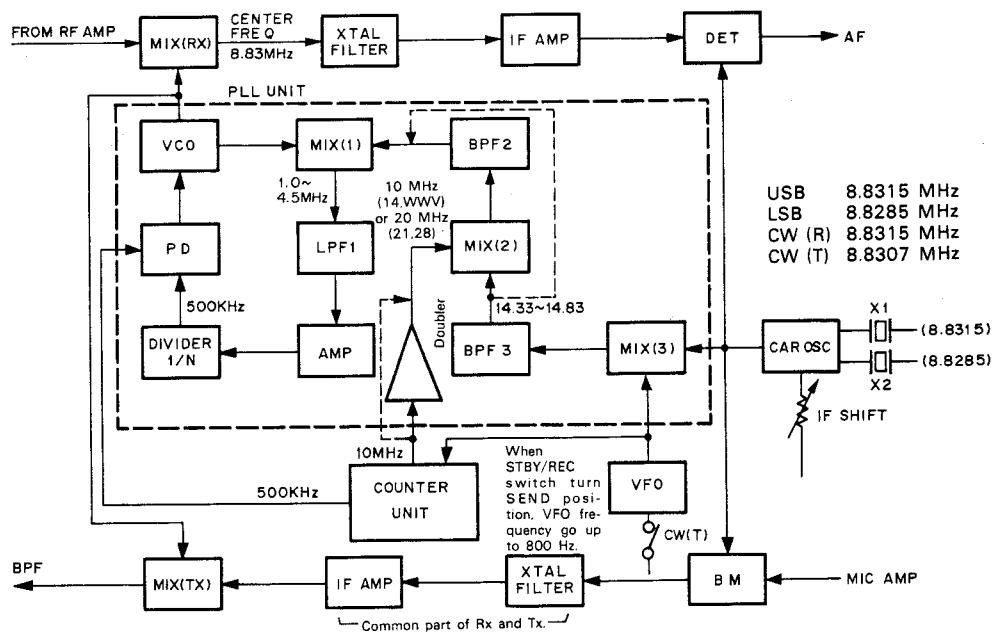

Fig. 1 TS-120 Frequency configuration
The TS-120S employs single conversion with a unique PLL circuit, as shown in Fig. 1.
Referring to Fig. 1, MIX (3) combines CAR and with VFO signal and is operated straight through to mixer 1 on 3.5 and 7 MHz. MIX (2) operates at 14 MHz, and above with the output of MIX (3) to provide mixer 1 input as shown in Table
1. MIX (1) output is filtered amplified shaped and divided by the programmable divider to obtain 500 kHz output.
The CAR oscillator contains one oscillator and two crystals for LSB, USB, and CW operation. The oscillator frequency in each mode is listed in Fig. 1.